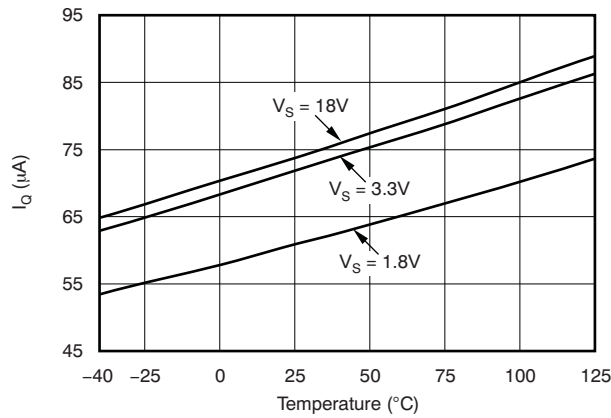

Figure 1.
(1) 100% of production is tested at  $T_A = +85^{\circ}C$ . Specifications over temperature range are ensured by design.
(2) See Figure 1 for typical quiescent current.
(3) Available Q4, 2007.